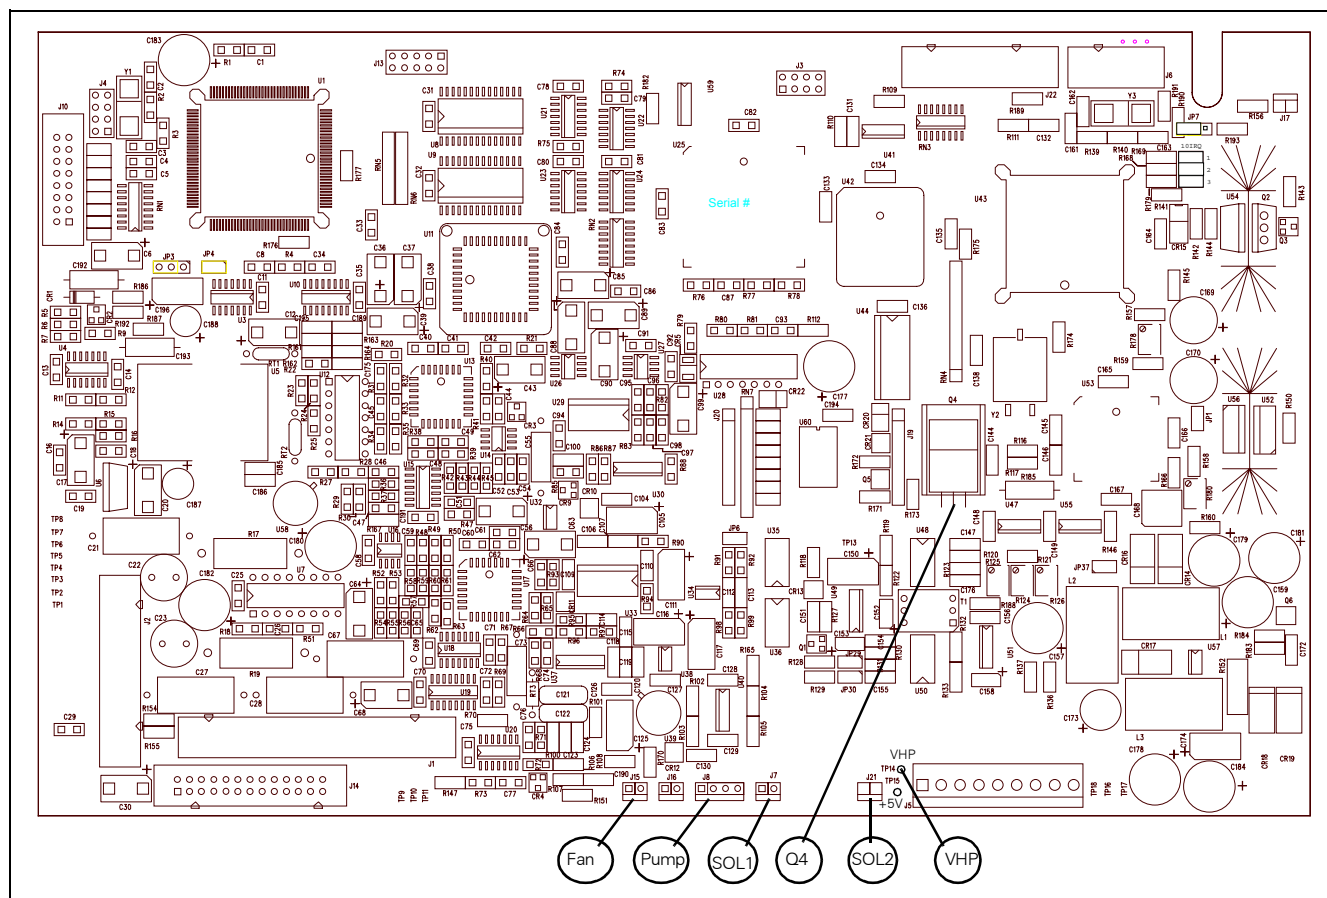

Figure 3-3 System PC Board
5. Disconnect pump wires from system board connector, J8. (See Figure 3-3 on page 27.)
2. Remove Solenoid #1 & #3 cable connector located at MGM System Board (see Figure 3-3 on page 27), and free wires of cable from cable clamps.
2. Unplug Solenoid #2 power cable connector from MGM System Board (see Figure 3-3 on page 27), and free cable wires from cable clamps.